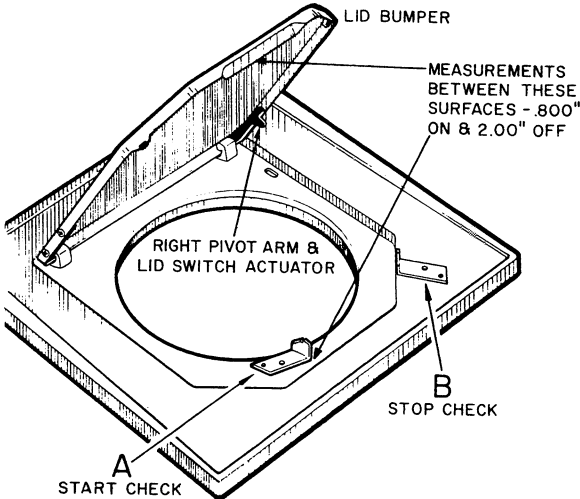

Figure 7—Measurements
1. Using 1 - WH16X376 Actuator Bracket as a test gauge, will give the required values. Refer to Figure 7.